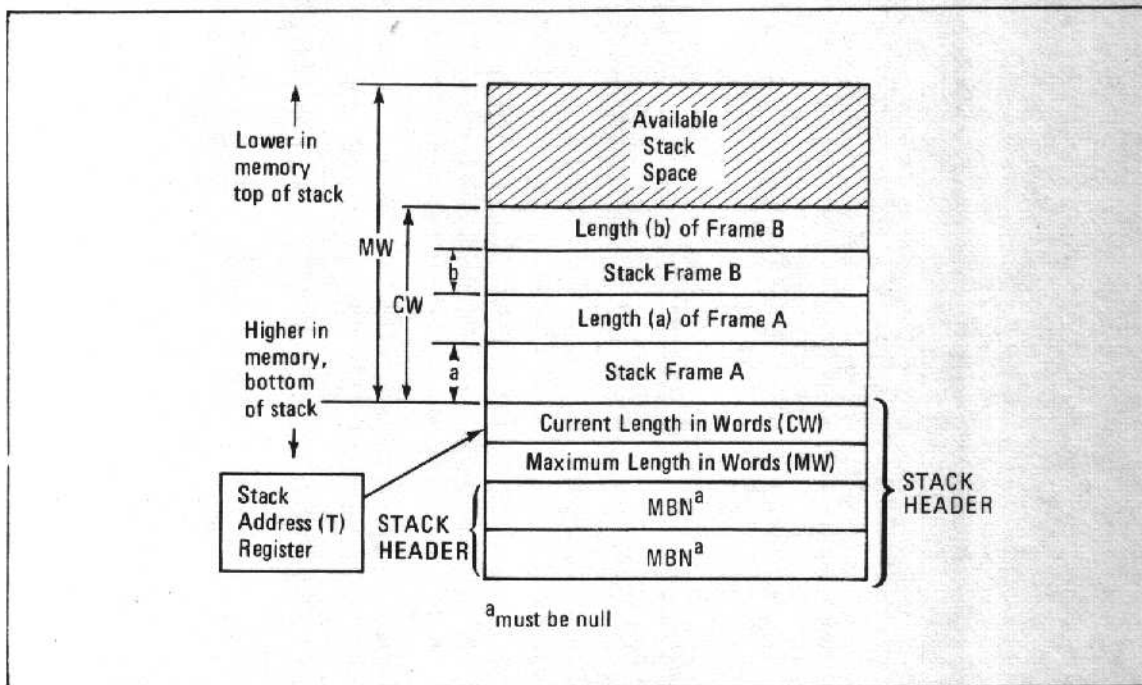

Figure 3-8. Stack Structure
The Models 43 and larger provide a single stack capability for each interrupt level. The Stack Address Register (T) points to the first word of the stack header (Figure 3-8).